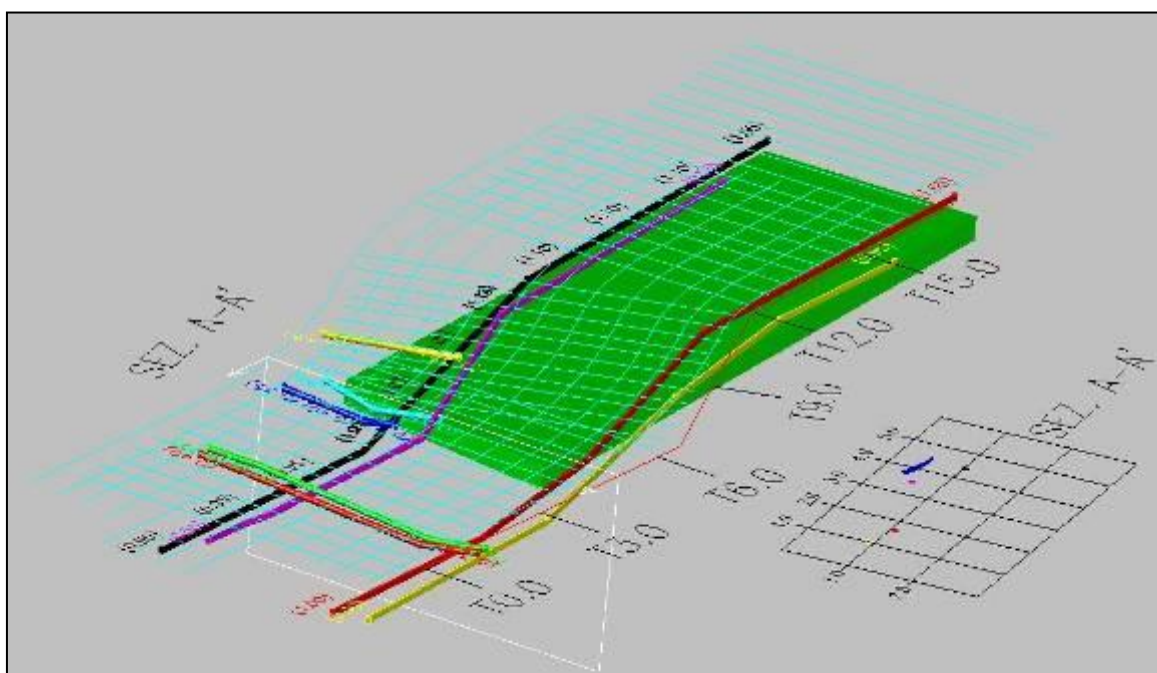

Fig. 3.6 – 3D View with rendering activated
8. *Shade 3D Objects*  automatically executes a “rendering” of all the 3D elements in the AutoCad file see Fig. 3.6.